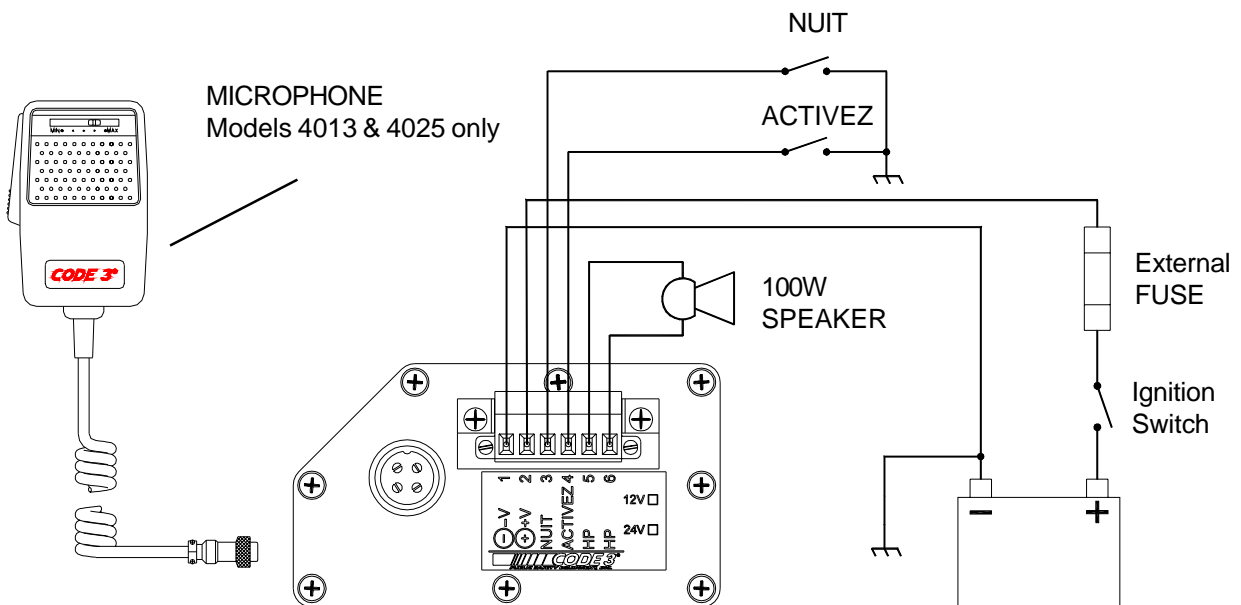

Figure 5, Wiring Diagram
**Siren Amplifier Connector** - Refer to the Wiring Diagram in Figure 5 (page 10) for detailed information about the amplifier connections. As a standard feature, the 4000 Series of Siren are equipped with a combination plug-in terminal block/connector. To terminate the wires, strip approximately 1/4" of insulation from the end of each wire and insert it in the appropriate hole in the terminal block. Tighten the setscrew and proceed to the next connection.